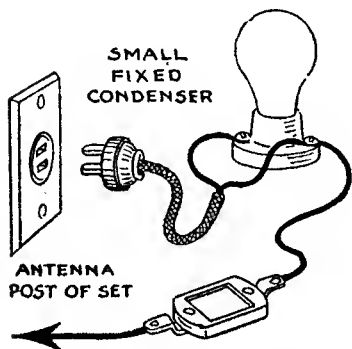

FIG. 64
*Using A Light Socket As An Antenna:* Although any radio receiver will be most efficient when connected to a regular antenna and ground system, the extreme sensitiveness of the modern set makes it possible to use various convenient substitutes as the aerial. How one such substitute, an electric light socket, can be used is shown in Fig. 64. While such an antenna will not, of course, bring in the signals with maximum strength it provides ample volume for ordinary reception.